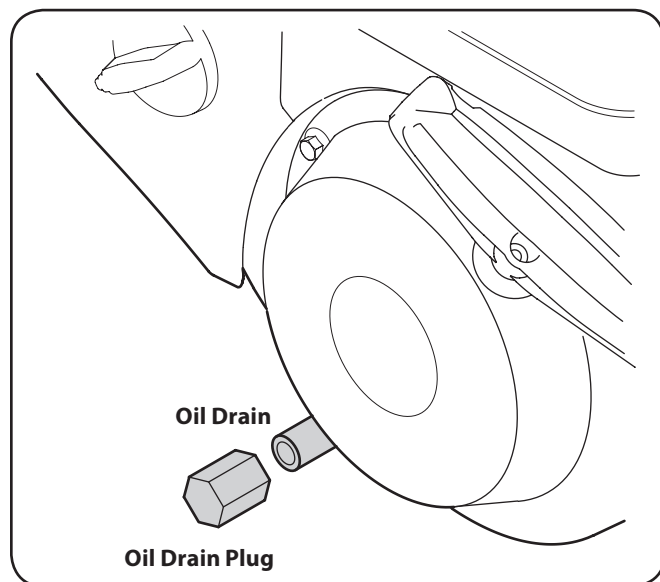

Figure 7-1
3. Remove oil drain plug, Figure 7-1.